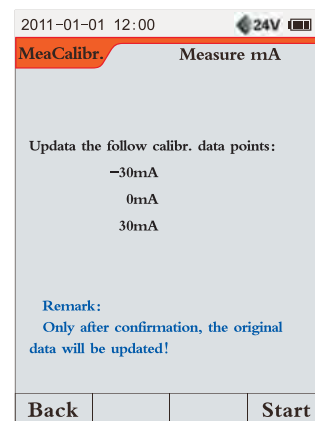

Figure 9.19 Current measure calibrate
b) As Figure 9.19, the calibrator will prompt the calibration points of the present item (-30mA 、 0mA 、 30mA) .